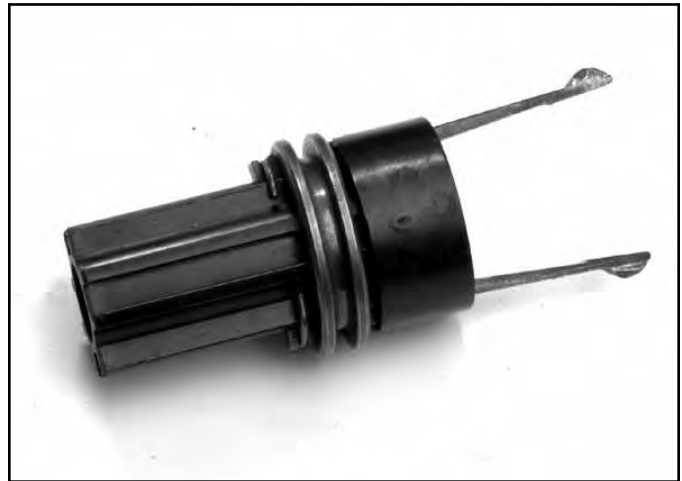

Fig 124
5. Coat the shift key sleeve with grease and prepare the shift keys, shift collar, and spring clip for assembly as shown in Figure 124.